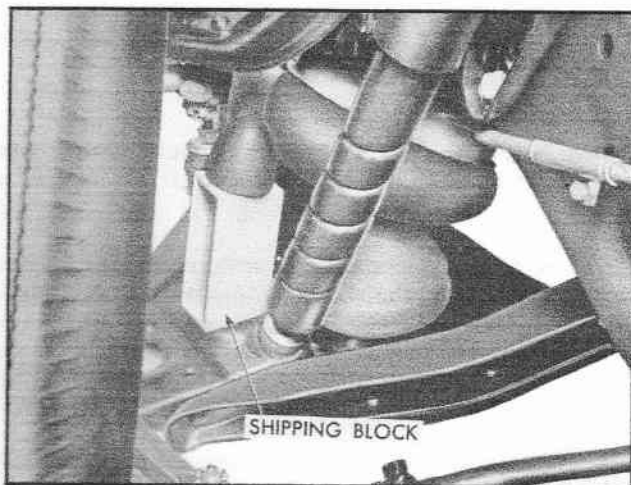

Fig. 4 Front Shipping Block
3. Remove front block and bumper assemblies from lower control arms and rear block and bumper assemblies from frame (Figs. 4 and 5).